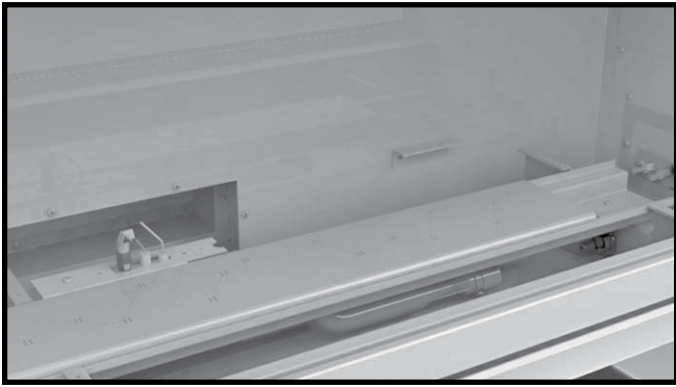

Figure 1: Burner installation.
1. Install the right burner by tipping into location trough and slipping the venturi tube over the orifice. Repeat with left burner (Figure 1). See Burner shutter settings note at the bottom of this page to check that the burner shutters are set properly for natural gas or propane gas.